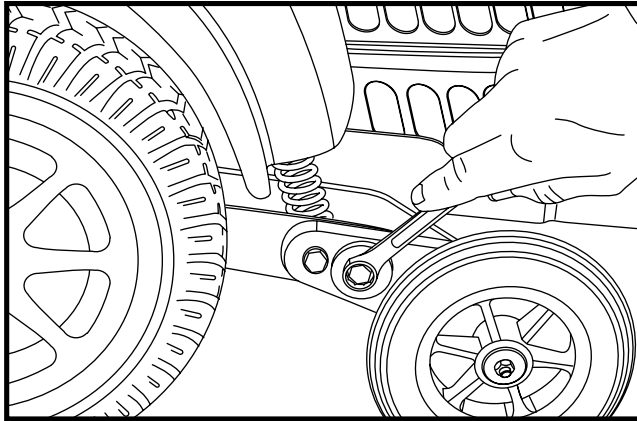

Figure 22. Anti-Tip Wheel Adjustment (Inner Lock Nut)
1. Place a wrench on the inner locknut of the anti-tip bracket located right after the shock strut. See figure 22.